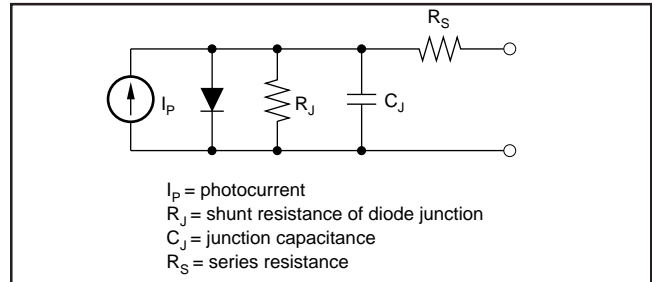

FIGURE 1. Photodiode Equivalent Circuit.
- *Photodiode capacitance should be as low as possible.* See Figure 1: CJ affects not only bandwidth but noise as well. This is because CJ and the op amp's feedback resistor form a noise-gain zero (feedback pole).